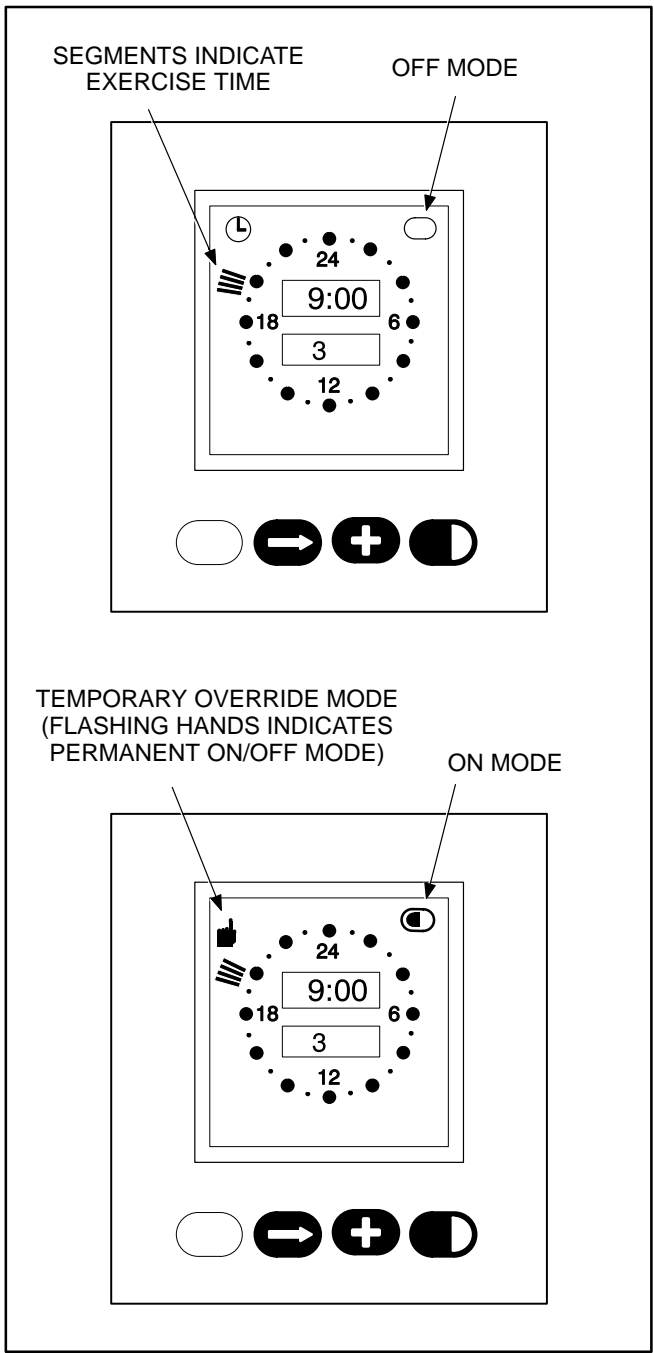

FIGURE 4-8. EXERCISER CLOCK ON/OFF MODE
reached, press the set (■) button (ON Mode is indicated, Figure 4-8).
Then increment the time with the plus (+) button to the desired **Stop** time. When the **Stop** time is reached, press the set (■) button (OFF Mode is indicated, Figure 4-8).
During the exercise period, the ON mode is indicated in the ellipse in the upper right corner of the display (Figure 4-8).
With the normal source connected and available, pressing the set (D) button once initiates a test sequence. A hand is displayed in the upper left corner of the display and the ON mode is indicated inside the ellipse in upper right corner of the display (Figure 4-8). Pressing the set (D) button again stops the test and the ellipse indicates the OFF mode.
To temporarily override an activated exercise program, momentarily press the set (D) button. A small hand will appear in the upper left corner of the display (Figure 4-8). The current program is overridden and the clock automatically sets the next program. Momentarily pressing the set (D) button again returns to the current program.